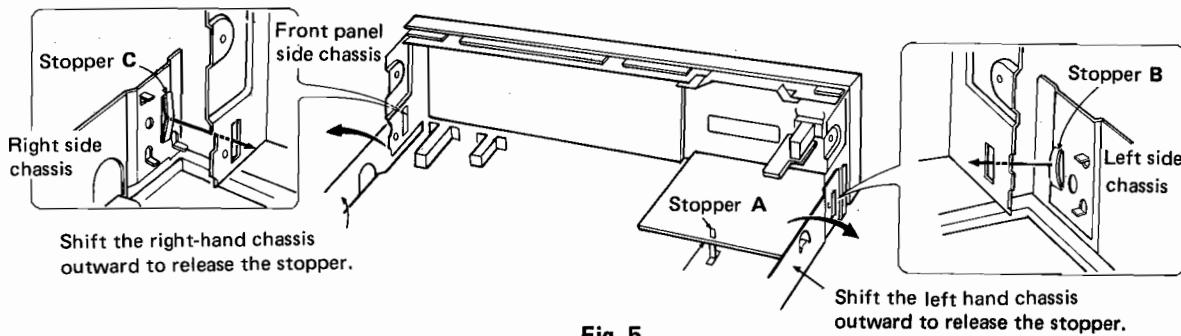

Fig. 5
5. Shift the right and left chassises outward as shown in **Fig. 5** to release the stoppers **B** and **C** out of the chassis holes on the front panel side.